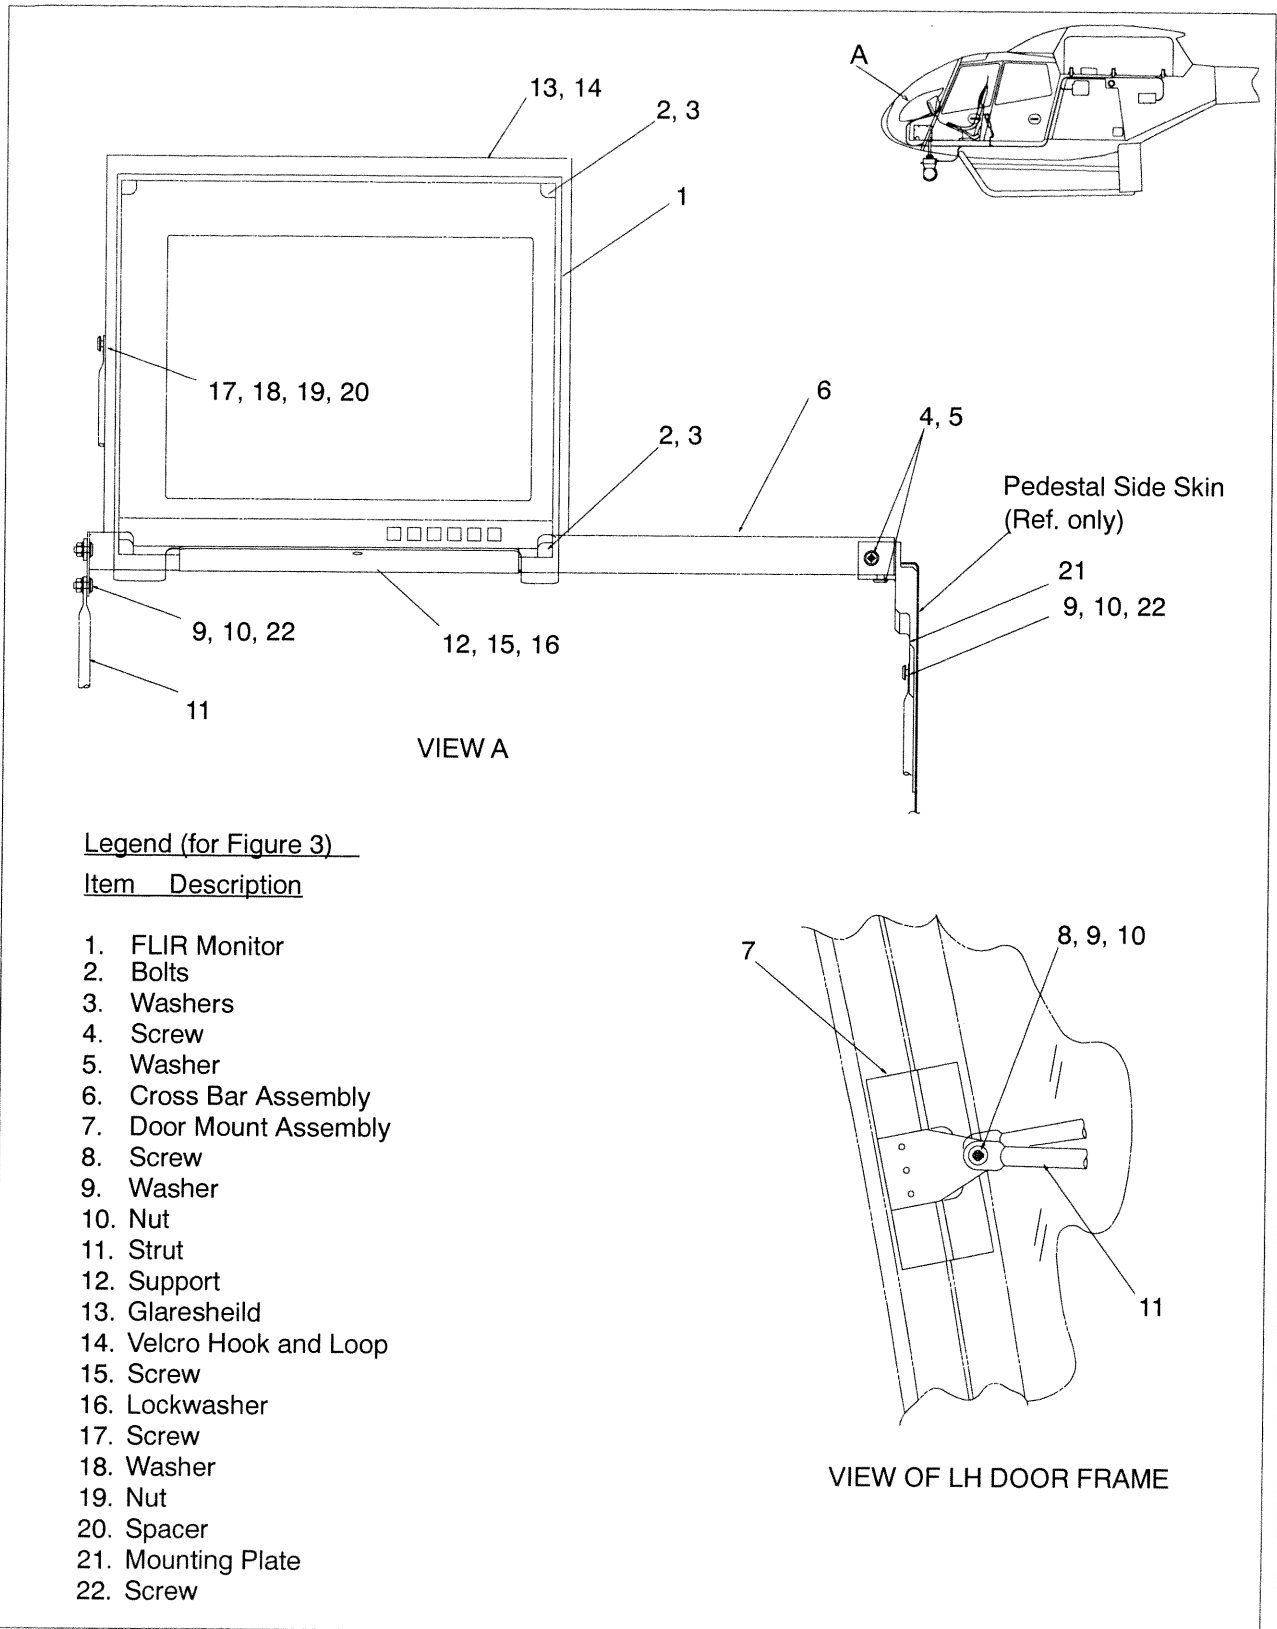

Figure 3 FLIR Monitor Details
- 5) FLIR Monitor (Refer to Figure 3)
- b) Remove bolts (2, 4 places) and washers (3, 4 places) from the corners of the monitor (1).
- c) Remove screw(15) and lockwasher (16) securing bottom of monitor to support (12).
- d) Remove the monitor (1).
- 6) FLIR Monitor Support Assembly (Refer to Figure 3)
- b) Remove cross bar assembly (6) by removing screws (4, 2 places) and washers (5, 2 places) from mounting plate (21).
- c) Remove the cross bar assembly (6).
- b) Remove webbing (2) from around hand controller (1) and lift from bracket (4).